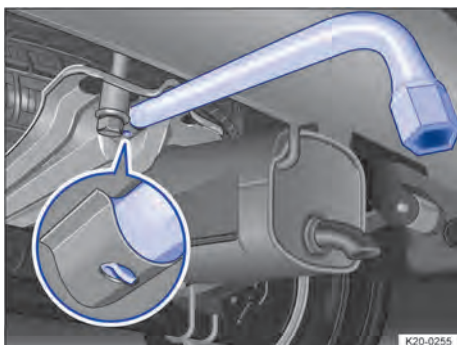

Fig. 209 Underneath the vehicle: spare wheel bracket with box spanner inserted
3. Fit the box spanner in the bracket → Fig. 209.
Make sure that the box spanner hook is located in the hole in the bracket → Fig. 209 (close-up). If the box spanner is hooked in correctly, you should not be able to pull it out towards the back of the vehicle.
2. Fit the box spanner in the bracket → Fig. 209.